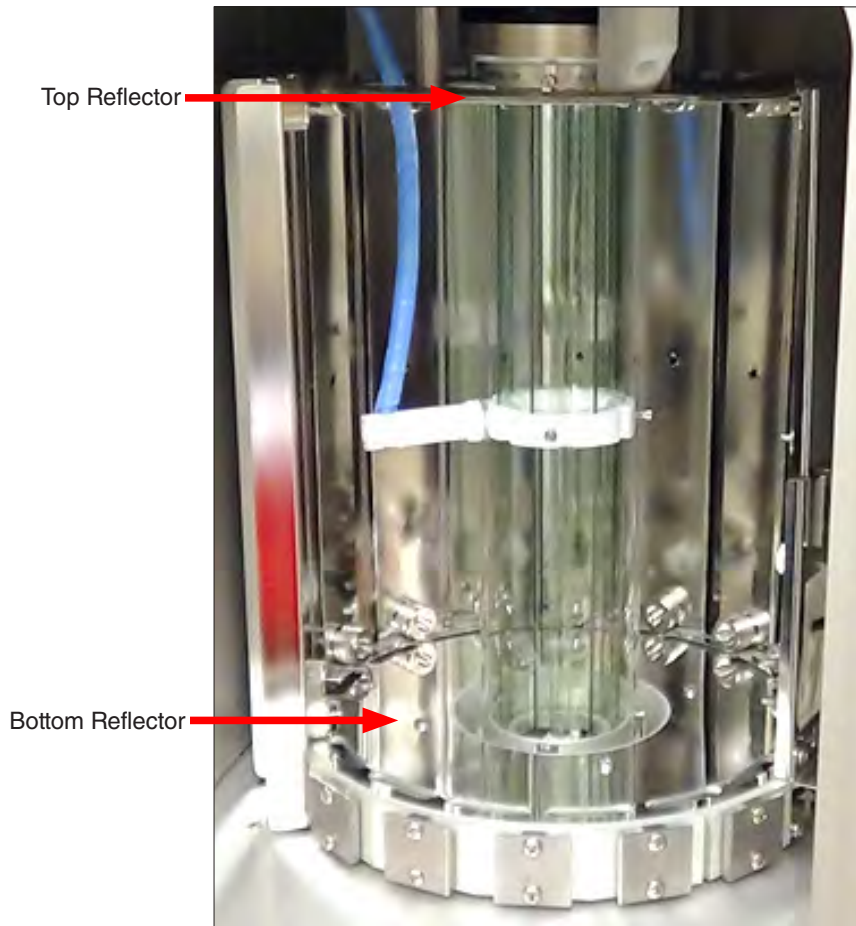

Figure 16.4: Lamp reflector cleaning.
- The reflector at the top and bottom of the lamp (Figure 16.4) should be cleaned with a soft lint-free cloth moistened with alcohol every time the outer cylinder is cleaned.